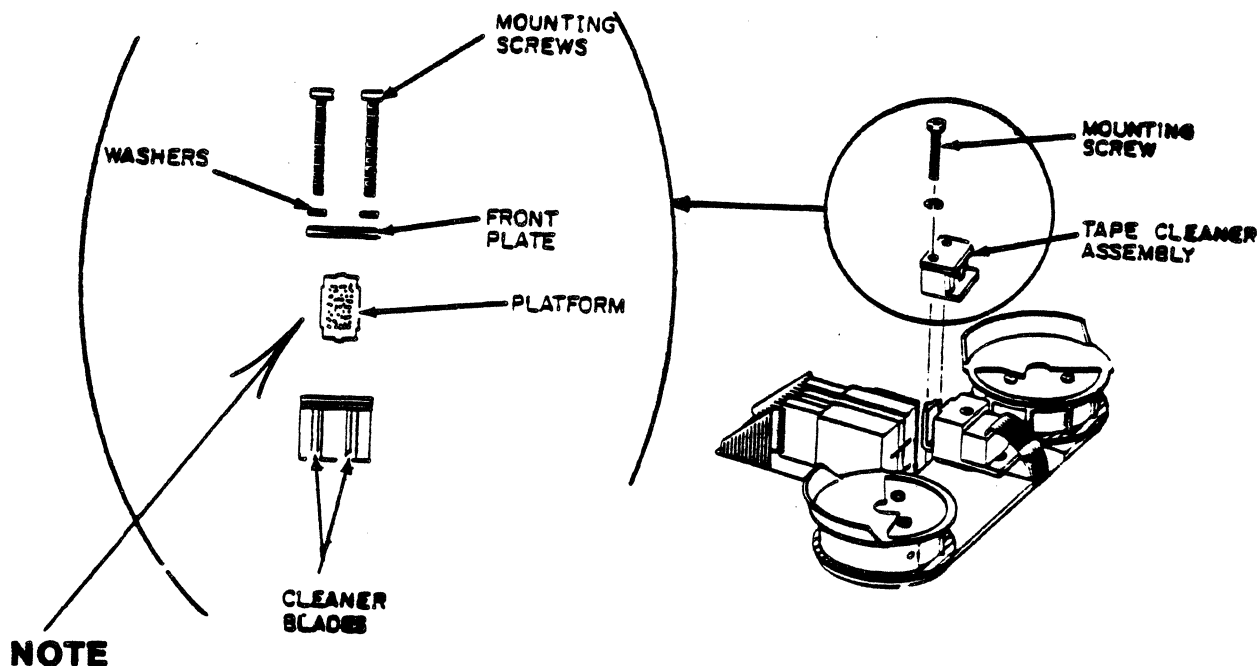

Figure 6-9. Tape Cleaner
2. Loosen the two mounting screws and remove the cleaner assembly from the tape deck. See figure 6-9.